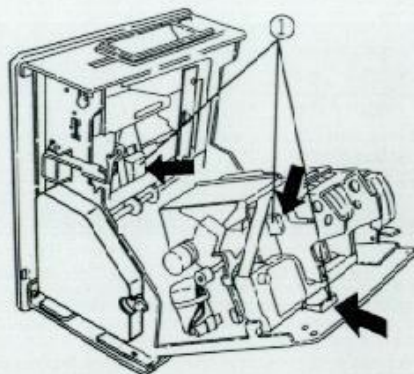

Fig. 1
- Before connecting power cord to AC power outlet, open the cover case and remove packing (cushion) materials ① placed on ribbon cartridge section and hammer section as shown in Fig. 1.